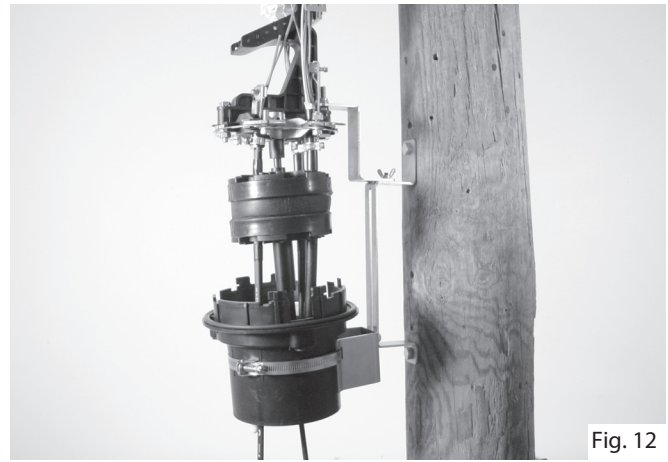

Fig. 12
7. Slide the base down away from the gel seal. (Fig. 12)